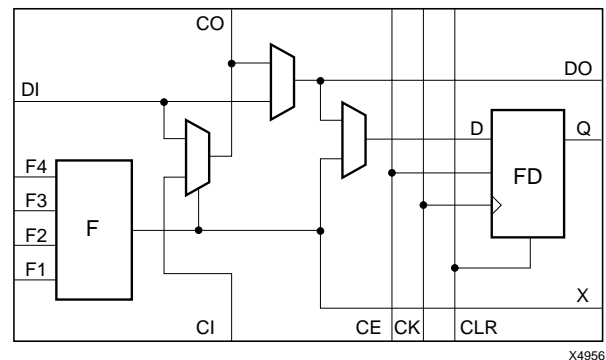

Figure 3: XC5200 Logic Cell (Four LCs per CLB)
The basic logic element in each VersaBlock structure is the Logic Cell, shown in **Figure 3**. Each LC contains a 4-input function generator (F), a storage device (FD), and control logic. There are five independent inputs and three outputs to each LC. The independence of the inputs and outputs allows the software to maximize the resource utilization within each LC. Each Logic Cell also contains a direct feedthrough path that does not sacrifice the use of either the function generator or the register; this feature is a first for FPGAs. The storage device is configurable as either a D flip-flop or a latch. The control logic consists of carry logic for fast implementation of arithmetic functions, which can also be configured as a cascade chain allowing decode of very wide input functions.